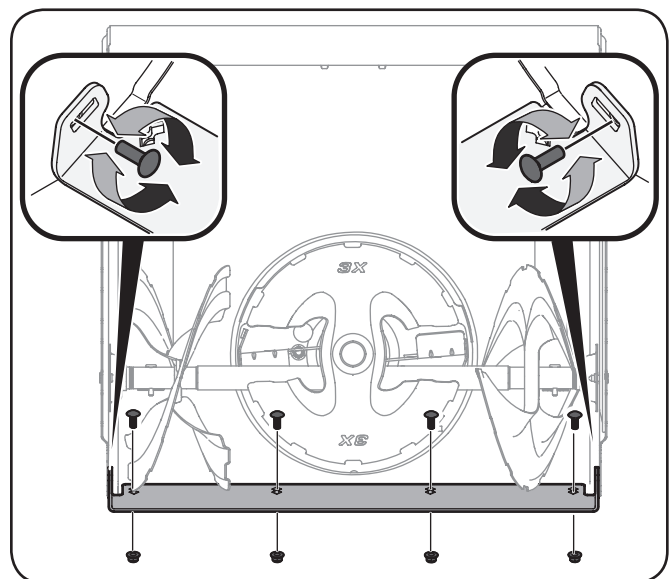

Figure 6-3
2. Reassemble new shave plate, making sure heads of carriage bolts are to the inside of housing. Tighten securely. See Figure 6-3.